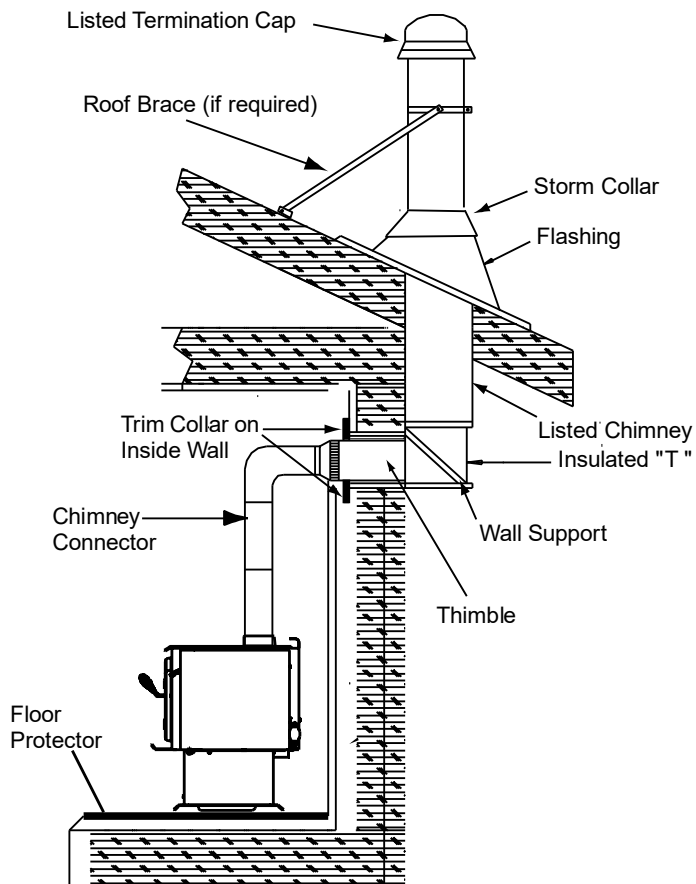

Figure 35.1 Prefabricated Exterior Chimney
3. Place the bracket containing the snap disc and magnet under the bottom left rear corner as shown in **Figure 35.1**.